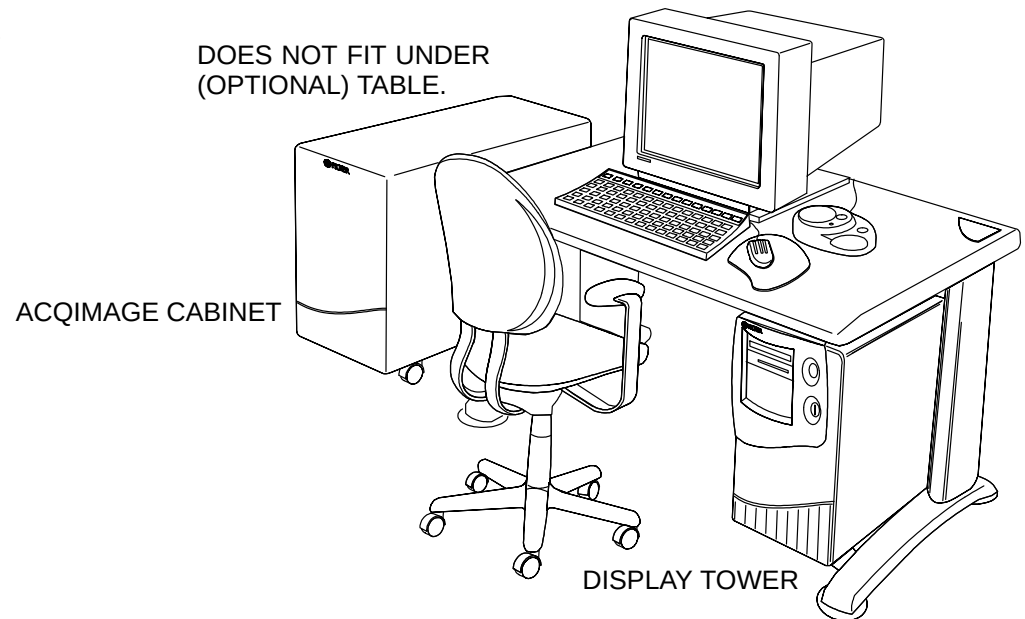

FIGURE 29 ACQIMAGE CABINET AND DISPLAY TOWER SETUP (optional table and chair)
3. Locate the Display Monitor, Keyboard, Mouse, Mousepad and Intercom Assembly to their respective locations. Refer to Figure 29 for a typical setup. Roll the Display Tower to its general location. (See Canadian Note.) To install the wrist pad on the new curved-top style keyboard (P/N 178918), turn the keyboard and wrist rest over. Place the wrist rest's four capture posts over the keyboard's four capture points and snap into place.